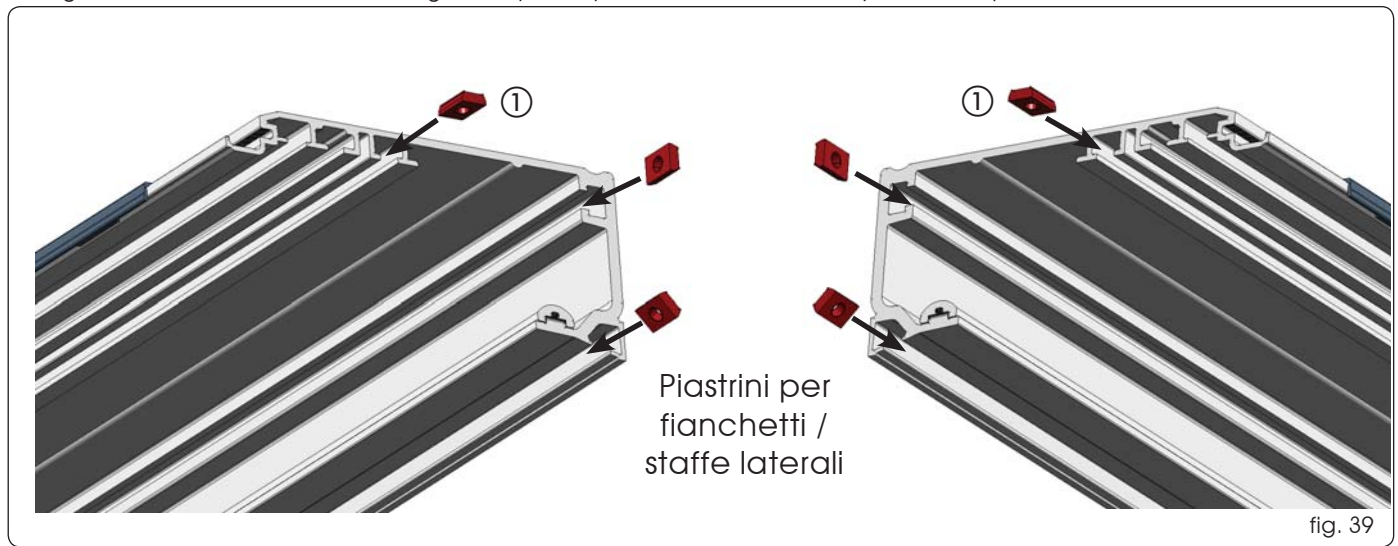

fig. 39
To fit the side elements, prepare 7 plates on the support profile to mount the side elements and the central bracket (for profiles over 3 m) (fig. 39).
If you do not want to fit the side elements, fit 3 brackets to secure the housing, two side brackets and a central bracket (for profiles over 3 m), placing only one side plate instead of 3 as shown in fig. 39 ref. ①.